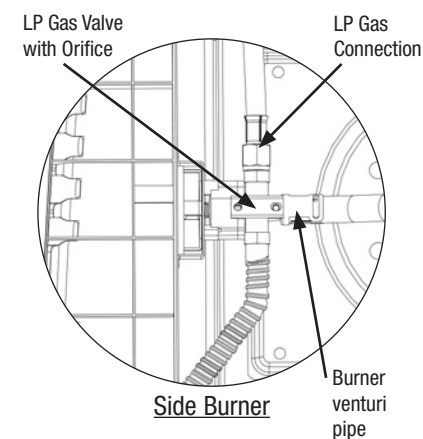

Figure 3
2. Make sure control knobs are "OFF". (Figure 3)
3. All control knobs must be in the "OFF" position. (Figure 3)